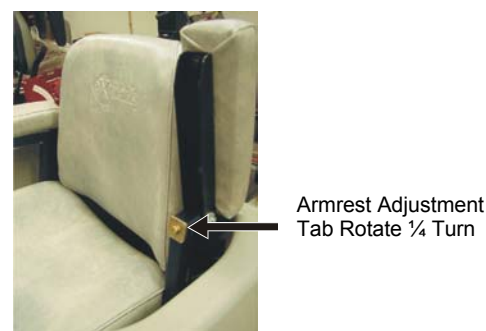

FIGURE 17
- a) Lift armrest on seat. Locate square tab marked with the numbers 1 through 4. Rotate square tab 1/4 turn to raise or lower the armrest in approximately 1/4" (6.4 mm) increments. See Figure 17.